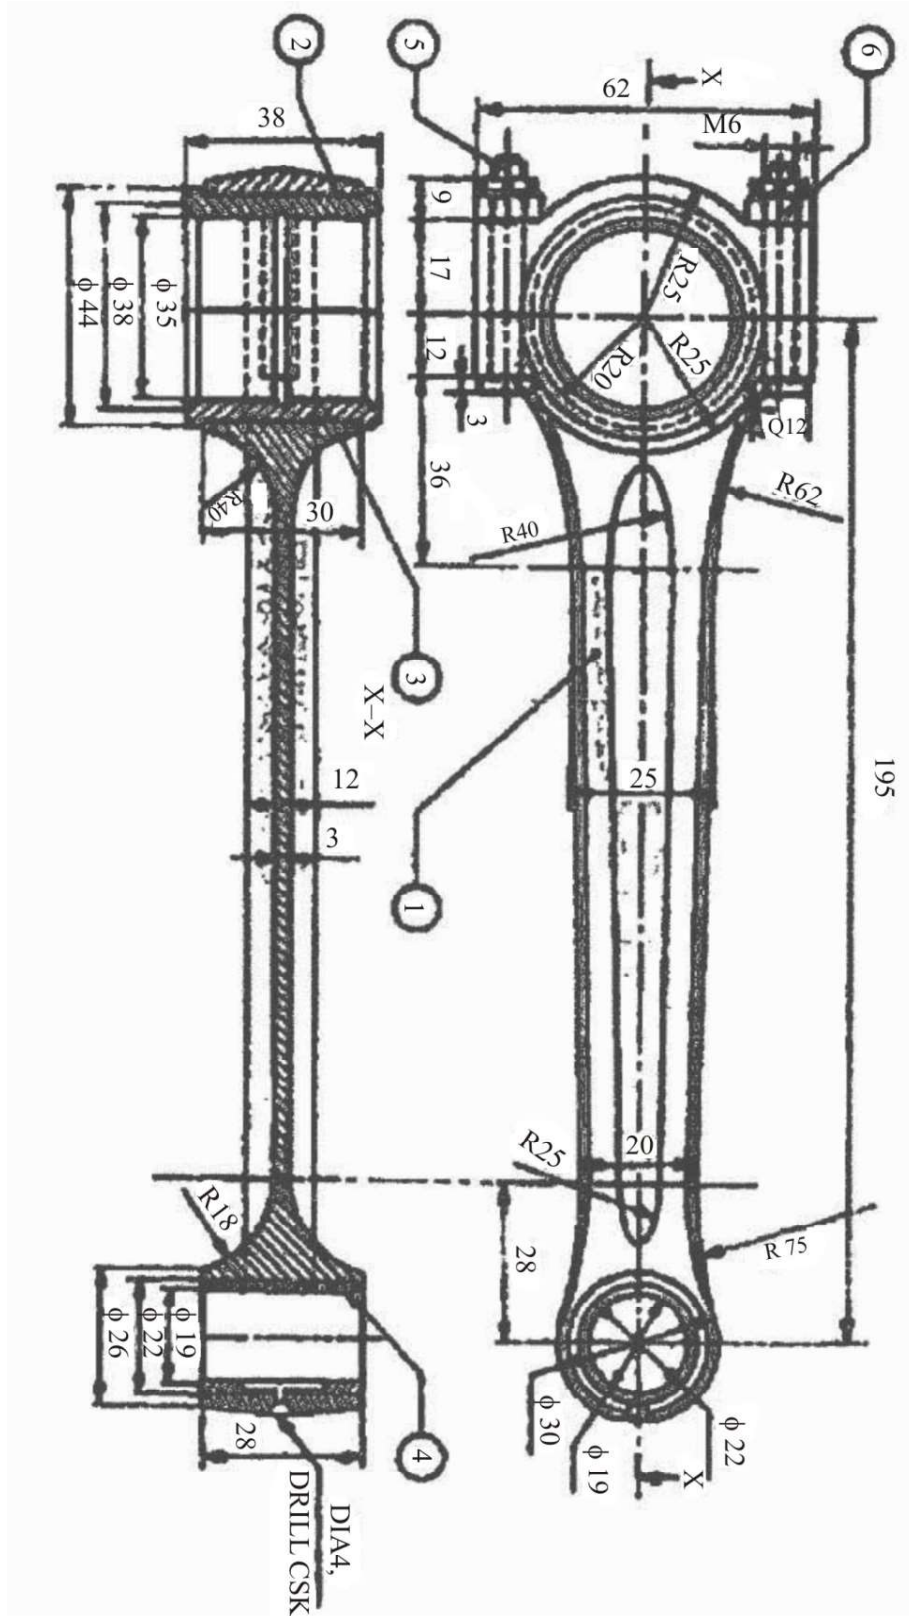

Fig. 1
7. Draw the sectional top view and front view of the petrol engine connecting rod from the given **figure 1** and part list –